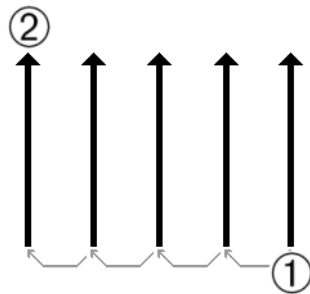

Figure 49: Given manner
Figure 49 shows all different ways of scanning in a scheme. The measurement starts at your starting point ① and ends at point ②.